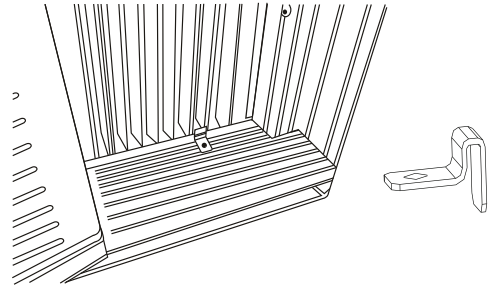

Fig.18C
3. Attach the Lock Frames to the window sill using two  $3/4$ " (19mm) screws (Fig. 18C) (on some models).